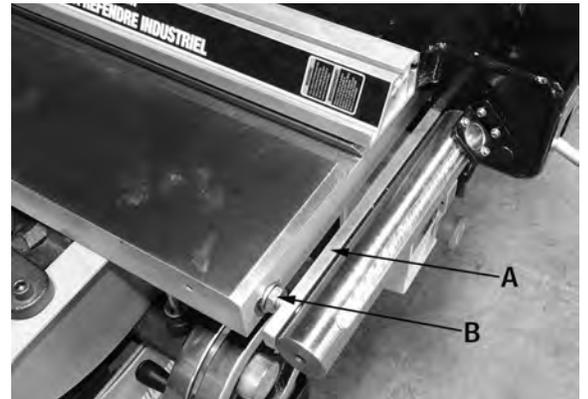
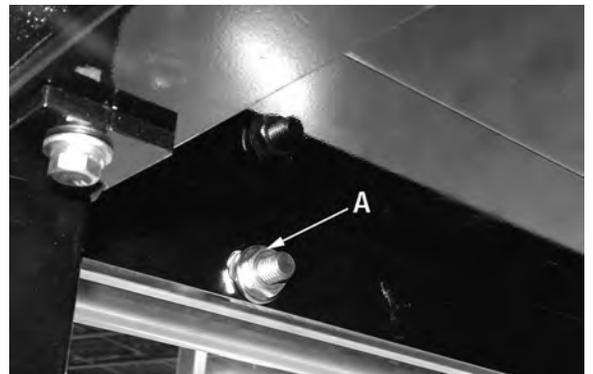

FIGURE 15
FIGURE 16
10. It is now time to secure the rip fence bar at the correct distance from the tables. This adjustment can be tricky. Normally the rear square bar (A) Fig. 15 is set approximately 3/4" away from the tables, keep in mind that this is only a guideline. It is very important to make the following adjustments correctly so the rip fence bar is parallel to the tables and when the rip fence is locked, that it is also parallel with the main table T-slot.
11. Using a 17mm open end wrench, tighten hex. nut (B) Fig.15 up against the extension table until the face of the rip fence aligns perfectly parallel with the main table T-slot.
13. Place a wrench on hex. nut (B) Fig.15 at the end of the bar and tighten the rear hex. nut (A) Fig.16 to secure that end of the rip fence bar. Repeat this step for the other two hex. nuts.